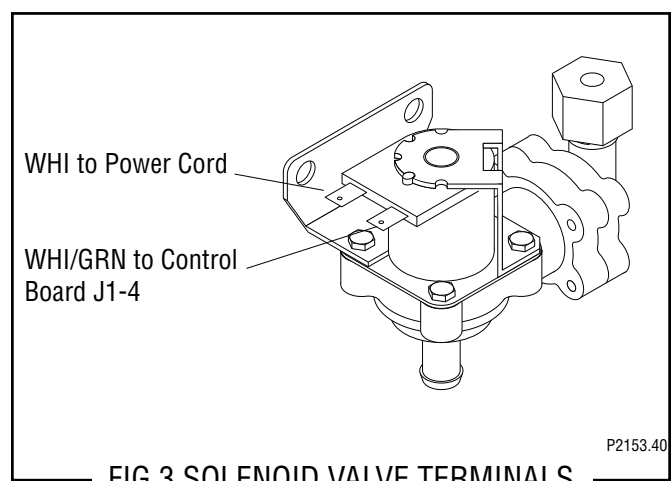

FIG.3 SOLENOID VALVE TERMINALS
8. Refer to Fig.3 when reconnecting the wires.